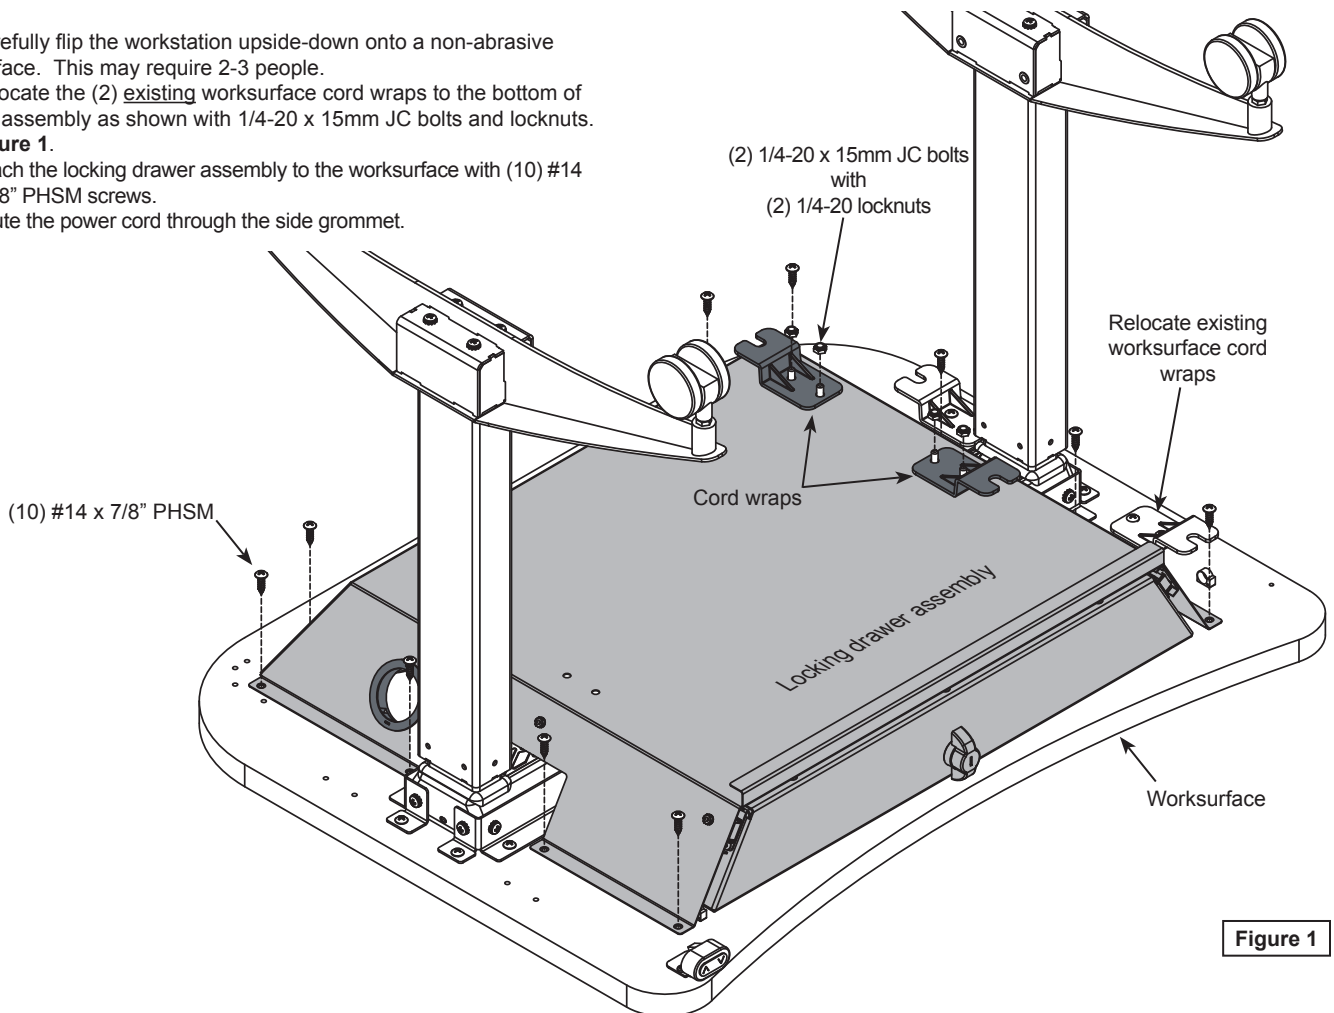

Figure 1
- Relocate the (2) existing worksurface cord wraps to the bottom of the assembly as shown with 1/4-20 x 15mm JC bolts and locknuts. **Figure 1.**
- Attach the locking drawer assembly to the worksurface with (10) #14 x 7/8" PHSM screws.